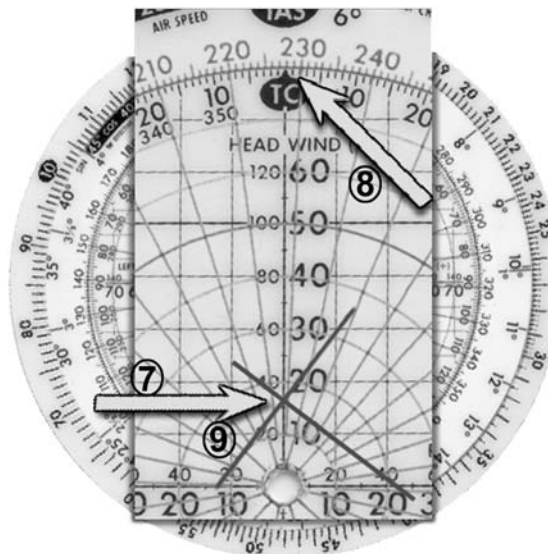

Figure 4.6-10 In-Flight Wind Calculation 7
8. The direction of the wind is read on top of the TC arrow (090°). (Figure 4.6-10)